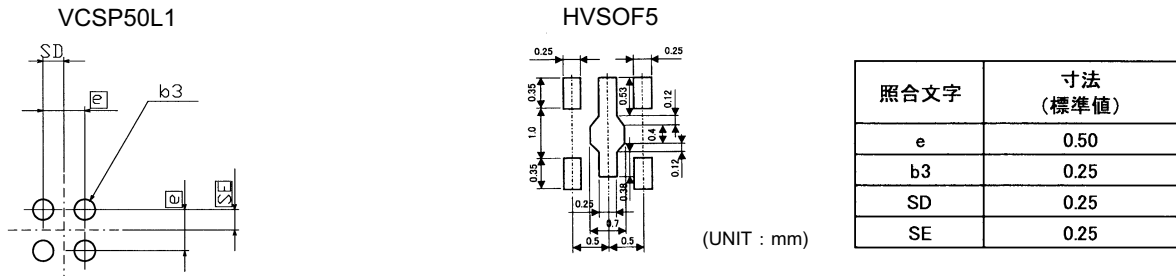

Fig.39 Magnet Dimensions and Flux Density Measuring Point
Of the two representative varieties of permanent magnet, neodymium generally offers greater magnetic power per volume than ferrite, thereby enabling the highest degree of miniaturization. Thus, neodymium is best suited for small equipment applications. Fig. 38 shows the relation between the size (volume) of a neodymium magnet and magnetic flux density. The graph plots the correlation between the distance (L) from three versions of a 4mm X 4mm cross-section neodymium magnet (1mm, 2mm, and 3mm thick) and magnetic flux density. Fig. 39 shows Hall IC detection distance – a good guide for determining the proper size and detection distance of the magnet. Based on the BU52012HFV, BU52013HFV operating point max 5.0 mT, the minimum detection distance for the 1mm, 2mm and 3mm magnets would be 7.6mm, 9.22mm, and 10.4mm, respectively. To increase the magnet's detection distance, either increase its thickness or sectional area.